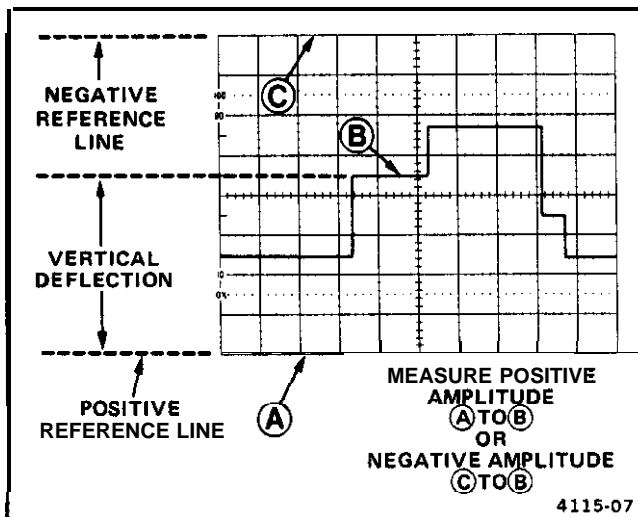

Figure 4-3. Instantaneous voltage measurement.
11. Measure the divisions of vertical deflection between the reference line and the desired point on the waveform at which the dc level is to be determined (see Figure 4.3).
EXAMPLE: The measured vertical deflection from the reference line is 4.6 divisions (see Figure 4-3), the waveform is above the reference line, the VOLTS/DIV switch is set to 2, a 10X attenuator probe is being used, and the A TRIGGER SLOPE switch is set to OUT:/.